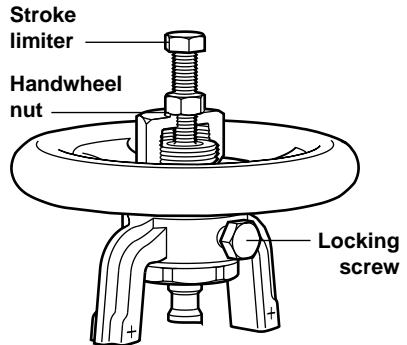

Fig. 5
- 5.4 BSA6T and BSA64T valves are fitted with a throttling plug to allow close control when opening the valve. The number of turns open will affect the flowrate through the valve. Once correct flowrate is obtained ensure the locking screw and stroke limiter (see Fig. 5, page 7) are tightened. This will minimise any vibration. The effect of valve opening for each valve size can be seen in the chart, page 7.